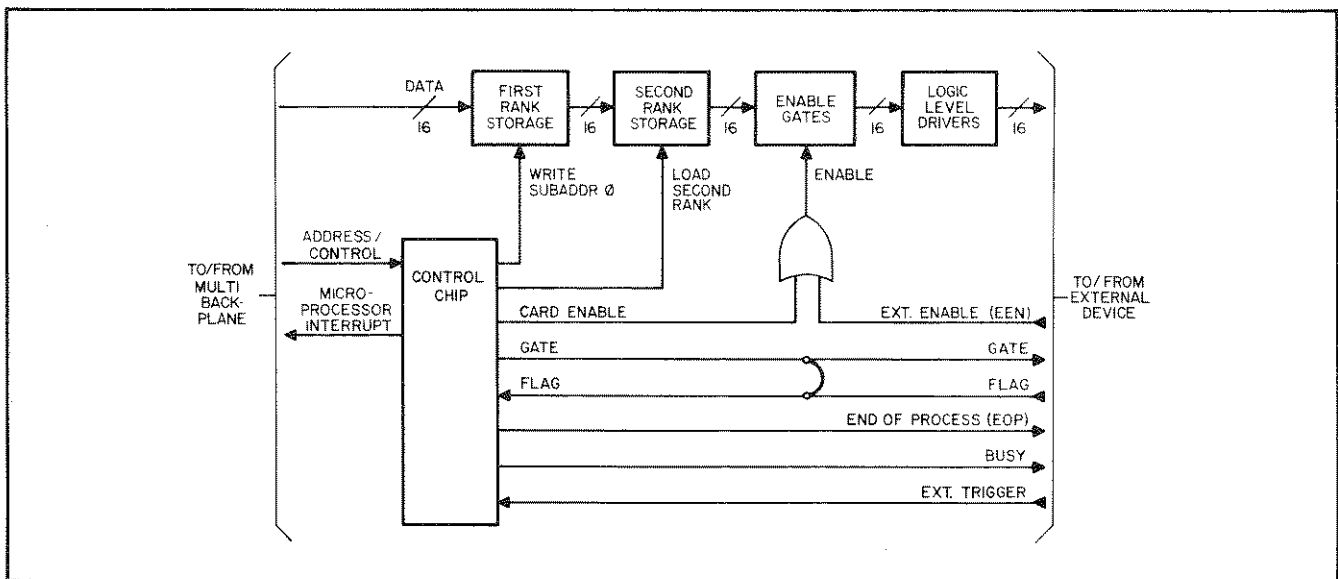
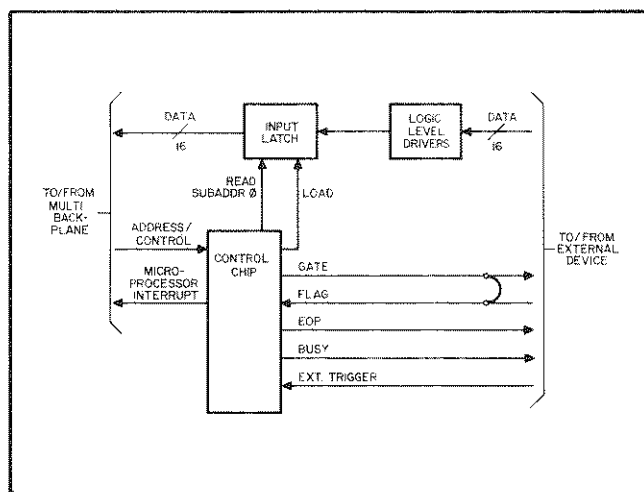

Figure 4-2. Digital Output Card, Simplified Block Diagram
Figure 4-6 Digital Input Card, Block Diagram
4-35 Figure 4-2 is a simplified block diagram of a Digital Output card illustrating the data flow, the major control signals, and the signals available at the card's edge connector. Referring to Figure 4-2, let's look at exactly what operations are performed when programming an OP instruction to a Digital Output card. Assume that the card is installed in card slot 1 and instruction "OP,1,123T" is programmed. This instruction sends the binary pattern representing 123 to the card. The OP instruction performs two basic operations on the card. First, the data is sent to the first rank storage register on the card. Although the card now has the data, it has not yet been sent to the output terminals. The second operation consists of cycling the card which transfers the data to the card's edge connector via the second rank storage register, the enable gates, and the logic level drivers. The cycling operation also generates a gate signal which initiates the gate/flag sequence (handshake cycle). Completion of the gate/flag sequence indicates that the card has completed operations. With the gate/flag jumper installed as shown in Figure 4-2, the sequence is completed instantaneously. Removal of this jumper allows the external device to determine the completion of the handshake cycle (see paragraph 4-38). Whenever an I/O card completes its handshake cycle the end-of-process (EOP) signal is generated. Certain instructions (such as OP and IP) require that each card, specified in the instruction, signal (interrupt) the microprocessor when it completes operations. These types of instructions automatically "arm" the card which will cause the EOP signal to generate the "Microprocessor Interrupt" signal (see paragraph 4-44). The arming circuit is inside the control chip on Figure 4-2.
4-37 The gate/flag handshake on the D/A Converter card works in a similar manner, except the timer is only 6 microseconds. Cards like the Digital Output shown in Figure 4-2, require no delay whatsoever. As soon as the data is stored in the second rank of storage, it appears at the output terminals and the gate/flag sequence completes instantly.
4-39 To solve this problem, remove the gate/flag jumper (see Figure 4-2) from the Digital Output card to extend the gate/flag handshake to the external device. The external device, such as the D/A in the above example, can then control when the Digital Output card signals completion, thus, guaranteeing that it will always be ready for the next data word. This is called synchronizing the external device to the Multiprogrammer. Each data transfer occurs only when both the Multiprogrammer and the external device are ready for it.
4-45 Not all instructions arm the card. The write and cycle (WC) instruction used to program output card, simply sends data to the card(s) then cycles the card(s). The cycle (CY) instruction simply cycles the card. Cards may also be cycled by applying an external trigger to the external trigger input on the card (see Figure 4-2). The Arm Card (AC) instruction can be used to enable cards that are being externally triggered or programmed with a "WC" or "CY" instruction to interrupt the microprocessor upon completion of their data processing. These interrupts are called "armed card interrupts" and are discussed in detail in Chapter 6. Note that if a card is cycled without first being armed, the EOP signal will go high indicating that the card completed its operation but will not be reset by the microprocessor until another instruction addressing the card is programmed.
4-46 **Card Enable.** All output card types have a card enable circuit that disables the card outputs when power is initially applied. (The enable circuit for the Digital Output card is shown in Figure 4-2.) A card's outputs remain disabled until the Multiprogrammer's system enable (SYE) line is turned on and the particular card is cycled for the first time. The SYE line is one of the control signals applied to the control chip on each card and is turned on when the first instruction is executed. An individual card is not enabled however until it is cycled. When disabled, an output card is set to a "safe" state (e.g. relays on a Relay Output card are opened).
4-48 Figure 4-6 is a simplified diagram of a Digital Input card. The input operation is the reverse of the output. The card is cycled, loading the data on the input terminals into the input latch. At this point the control chip signals the microprocessor that the card has completed and the microprocessor responds by reading the data from the input latch. The identical sequence, sampling the data on the edge connector, loading it into the input latch, signalling the microprocessor, and then having the microprocessor read the input latch, is performed on every type of input card. Note that the card enable circuit shown in Figure 4-2 for the Digital Output card does not apply to the input cards.